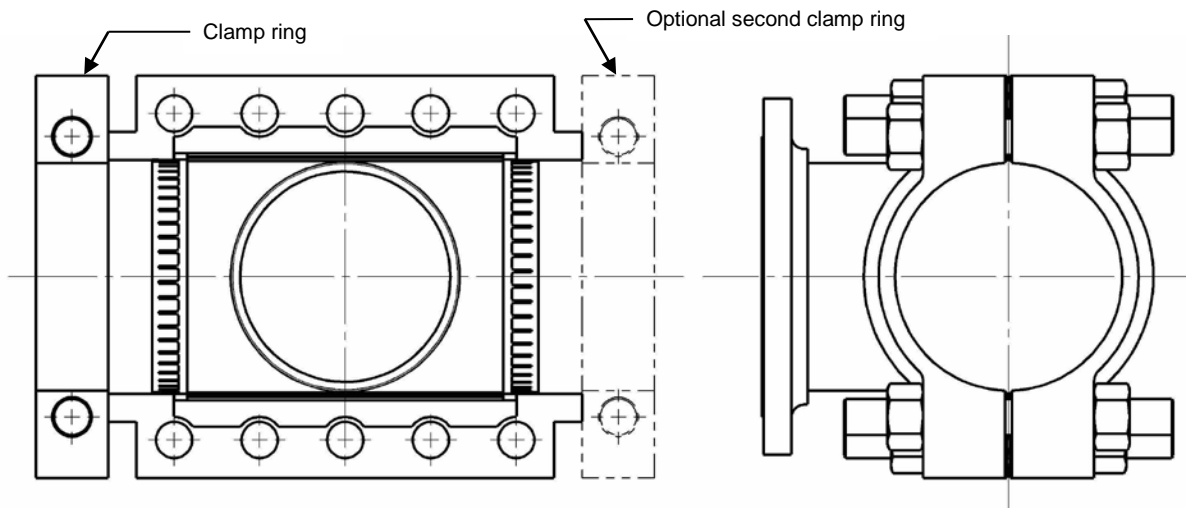

Figure 2
5. If a separate clamping element is used it must be assembled immediately adjacent to the PLIDCO HotTapping+Saddle at the downstream end. Ensure there is no gap between the PLIDCO HotTapping+Saddle and the separate clamping element. The hydraulic forces acting on the plug during the plugging operation are transferred to the clamping element thereby preventing axial movement of the PLIDCO HotTapping+Saddle. (See Figure 2)